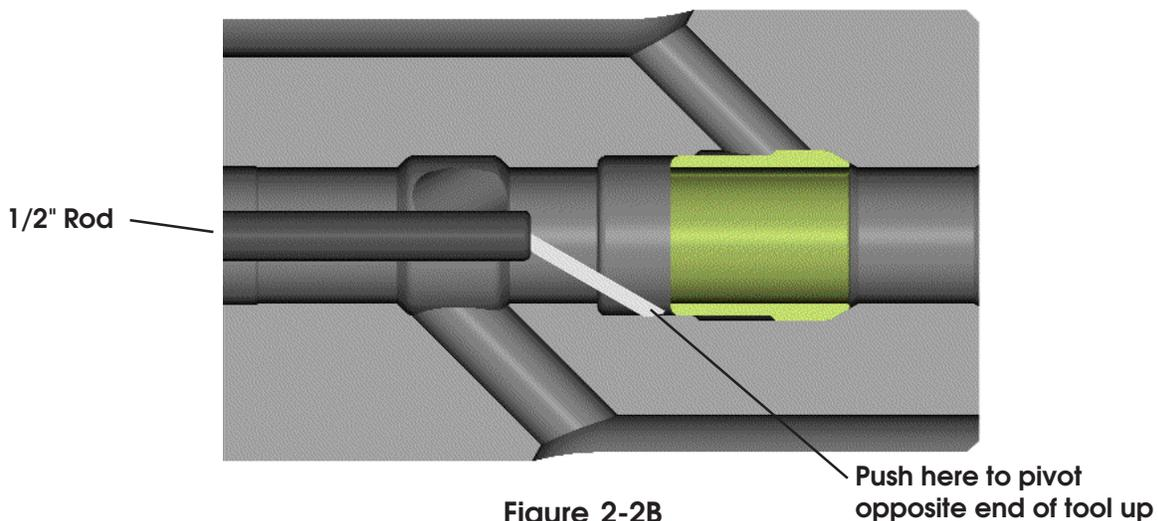
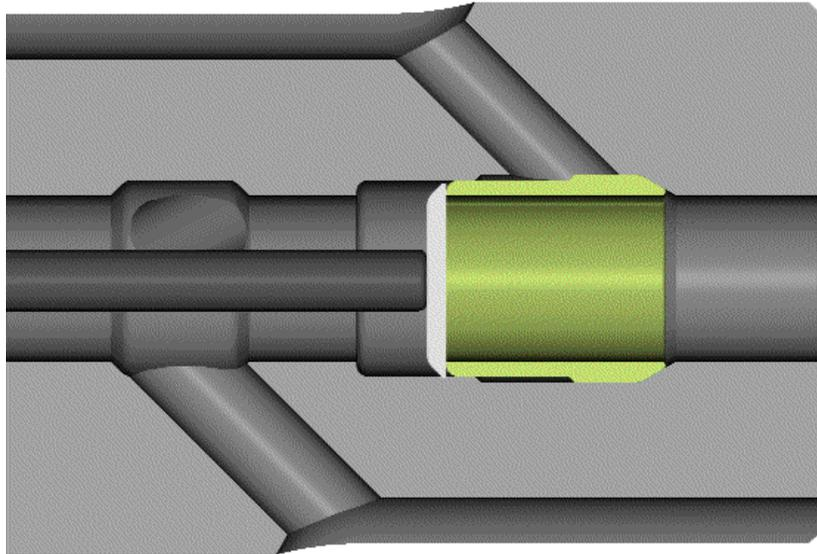

Figure 2-2B
Figure 2-2C
- With your finger or screw driver pivot the removal tool as shown in figure 2-2B. Use the 1/2" rod to flip the removal tool to the vertical position, (refer to figure 2-2C).